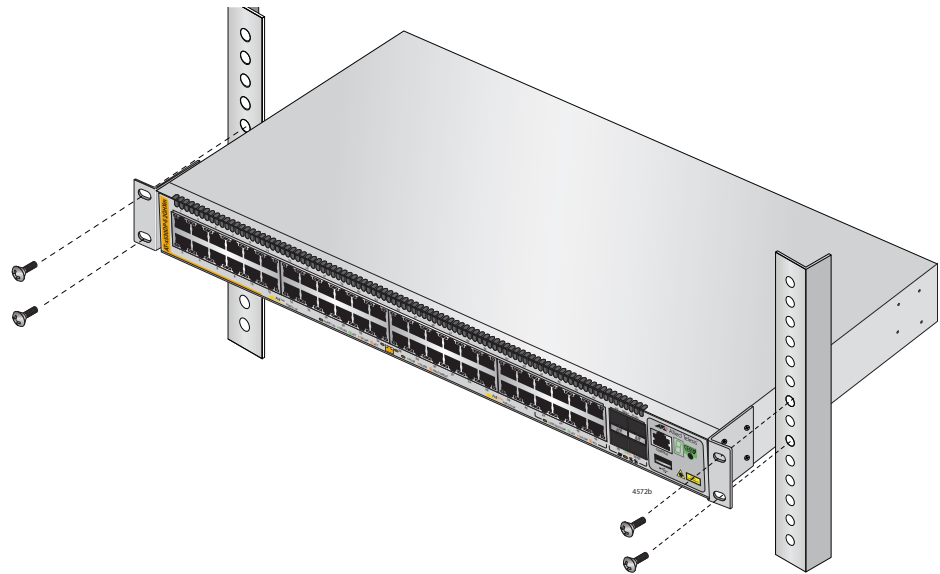

Figure 4. Installing the Switch in an Equipment Rack
3. Have another person hold the switch at the desired location in the equipment rack while you secure it using four standard equipment rack screws (not provided). Refer to Figure 4.